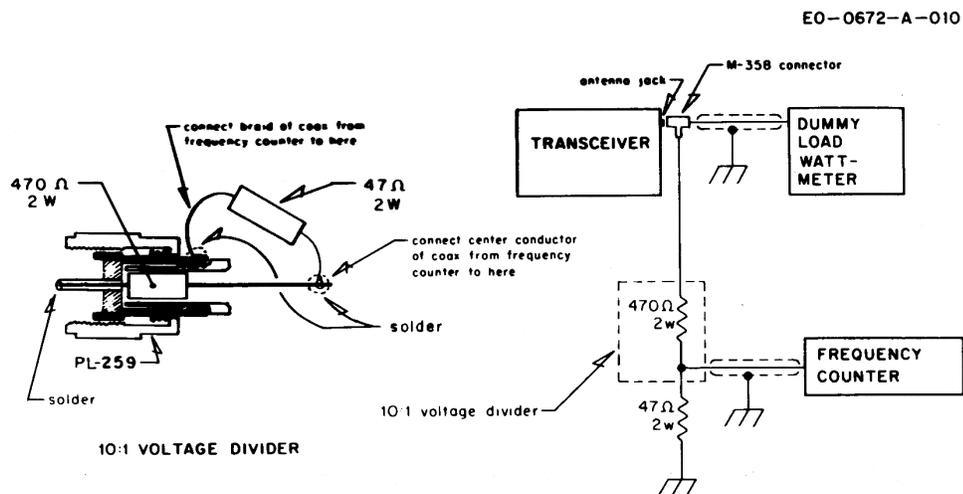

Figure 3-2. Connection of Frequency Counter and Dummy Load
***NOTE:** See figure 3-2 for connection of the frequency counter and the dummy load.
2. Connect the dummy load and frequency counter to the antenna jack as shown in figure 3-2.